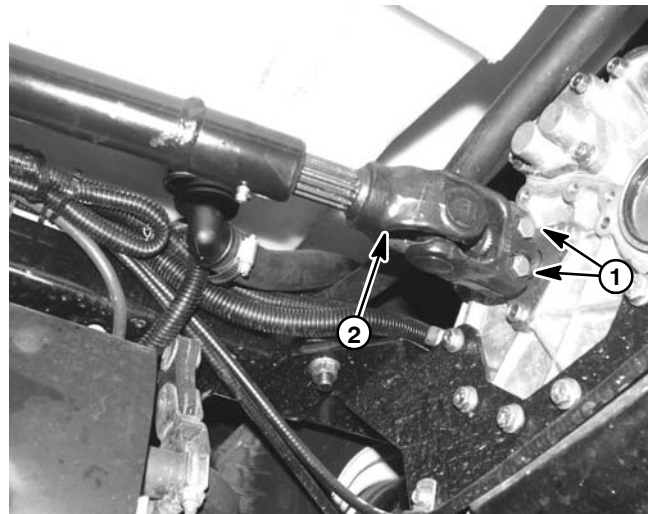

Figure 28
14. Loosen and remove cap screws and flange nuts that secure universal joint of transaxle driveshaft to input shaft of transaxle (Fig. 28). Disconnect driveshaft from transaxle input shaft.
- D. Install cap screws and flange nuts to secure driveshaft to transaxle input shaft (Fig. 28).